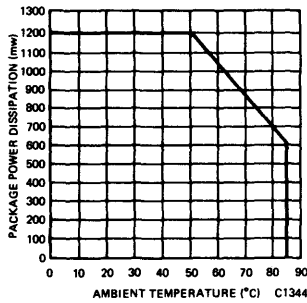

Fig. 4. Max. Tolerable Power Dissipation
- If operating temperature is above 50°C , then power dissipation must be derated. Using Derating Factor of $-17.1 \text{ mW}/^\circ\text{C}$ for total package: Or see Fig. 4.